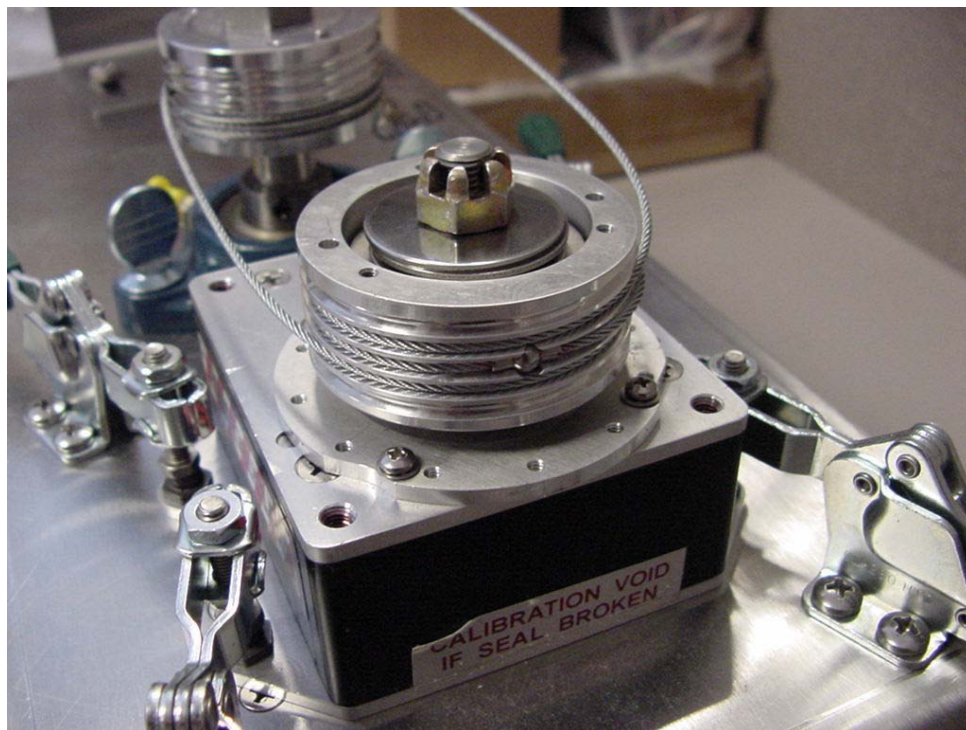

Figure 3-8. Cable Placement (unit capstan)
- 2) Wrap cable around unit capstan two and one half turns, with ball in center. See Figure 3-8. For sprocket and chain method, refer to paragraph 3.3.5.1.